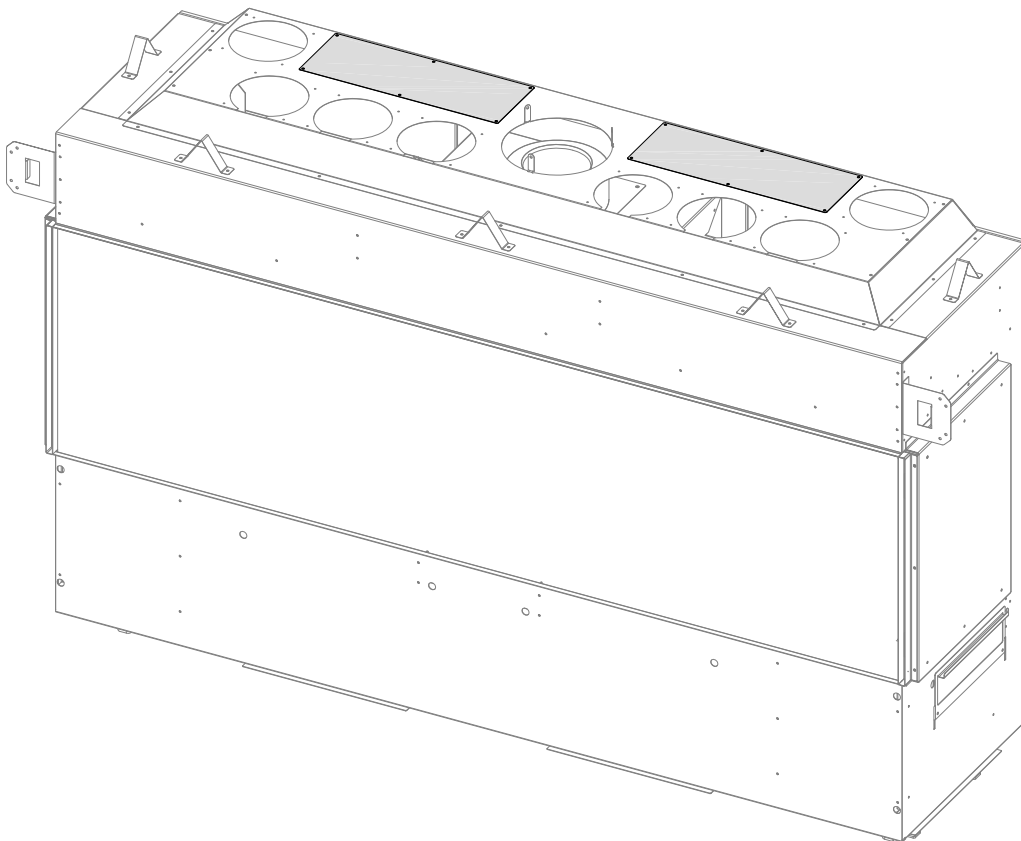

Figure 4.29 - Vented Cavity Cover Plate Location
1. The fireplace ships ready for all vented cavity installations in the single sided installation scenario. Leave the rectangle cover plates installed on the fireplace, as shown in Figure 4.29.